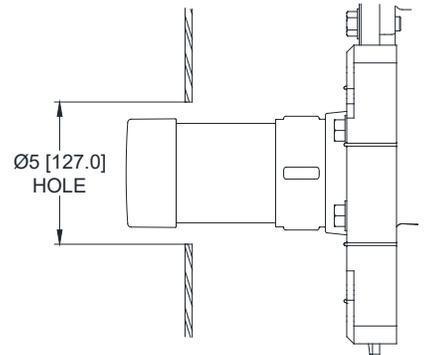

Figure 10b
- a. Note: For EZ-Set Coupling hole sizing. See Figure 10b.